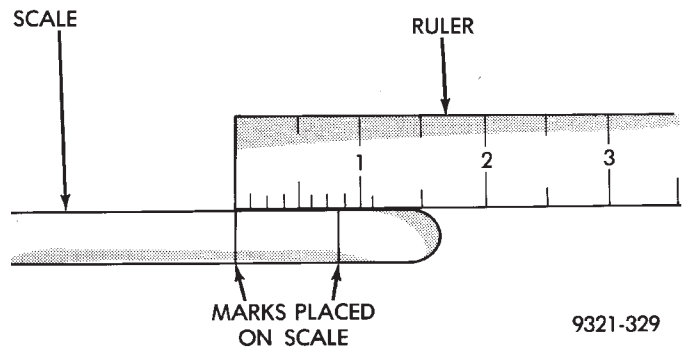

Fig. 305 Measuring Marks on Scale
(7) Measure the distance between the two marks placed on the scale (Fig. 305). If the two marks on the scale are more than one inch apart, replace the drive chains.
(8) If the transfer chains were replaced, refer to Snubber Gap Measurement in this section to verify correct snubber clearance.